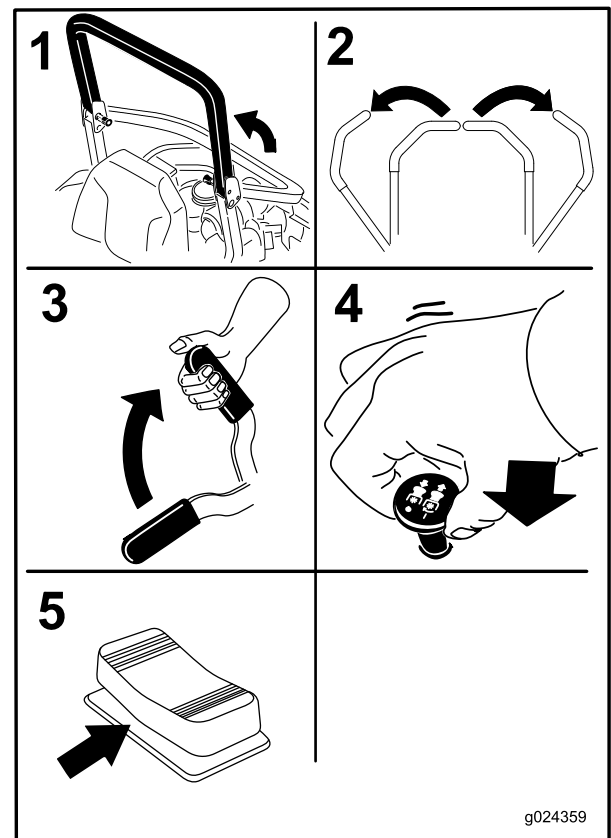

Figure 18
4. Move the blade-control switch (PTO) to the Off position (Figure 18).